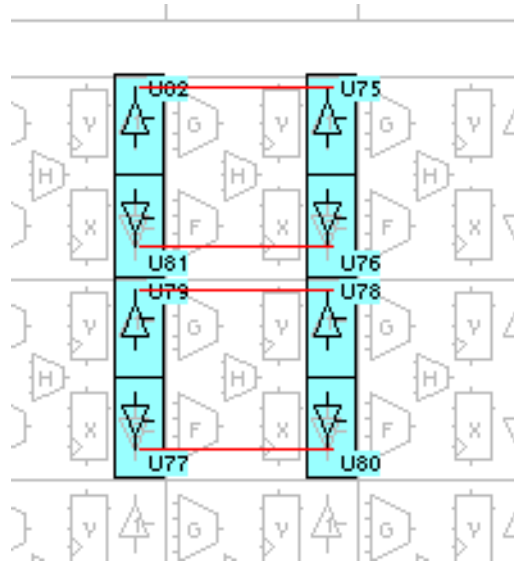

Figure 4-20 Aligning BUFTs
12. Place the remaining BUFTs in the same column directly beneath U75, as shown in Figure 4-20.